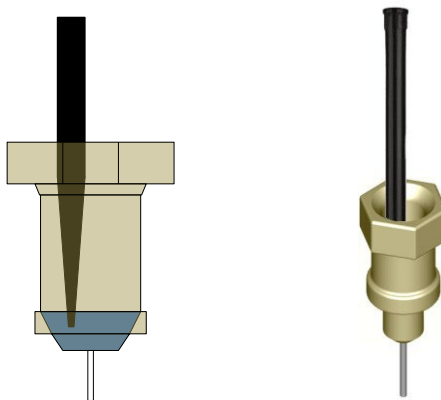

Figure 8-4: Correct pipette tip alignment with the sample Inlet Port.
The correct position of the pipette tip with respect to the sample Inlet Port is shown in Figure 8-4. The tip should be located slightly to one side of the port, and below enough such that the tip is submerged into the fluid in the sample Inlet Port. If the tip is located above the fluid in the port, the dispensing operation will cause micro air bubbles to form in the liquid.
- 3 Exit the menu and restart MVSS. Repeat steps 1 and 2 to fine-tune the port location as required until the pipette tip is located in the port as shown in Figure 8-4.